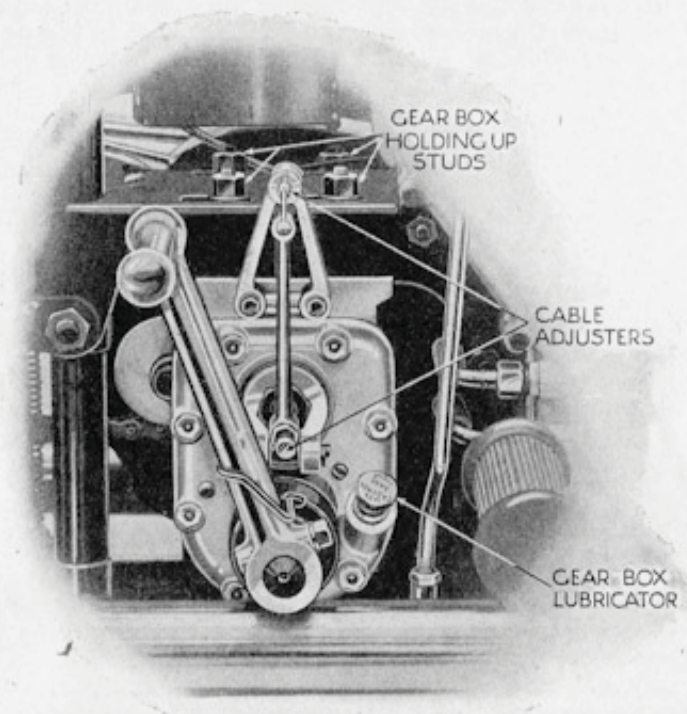

FIG. 31. THE HEAVYWEIGHT STURMEY-ARCHER GEAR-BOX (1932-36)
**Attention to Clutch (Sturmey-Archer).** This has no adjustment for the spring tension and the pins must always be screwed up dead tight, but the rider should always see that there is a little backlash in the handlebar lever so that the clutch springs can always exert their full pressure. To give the correct (about  $\frac{1}{2}$  in.) backlash in the Bowden lever on the handlebar, adjust on the S.A. gear-box models by means of the operating shaft adjustment screw shown in Fig. 31. A further adjustment is also provided at the arm through which the cable passes.